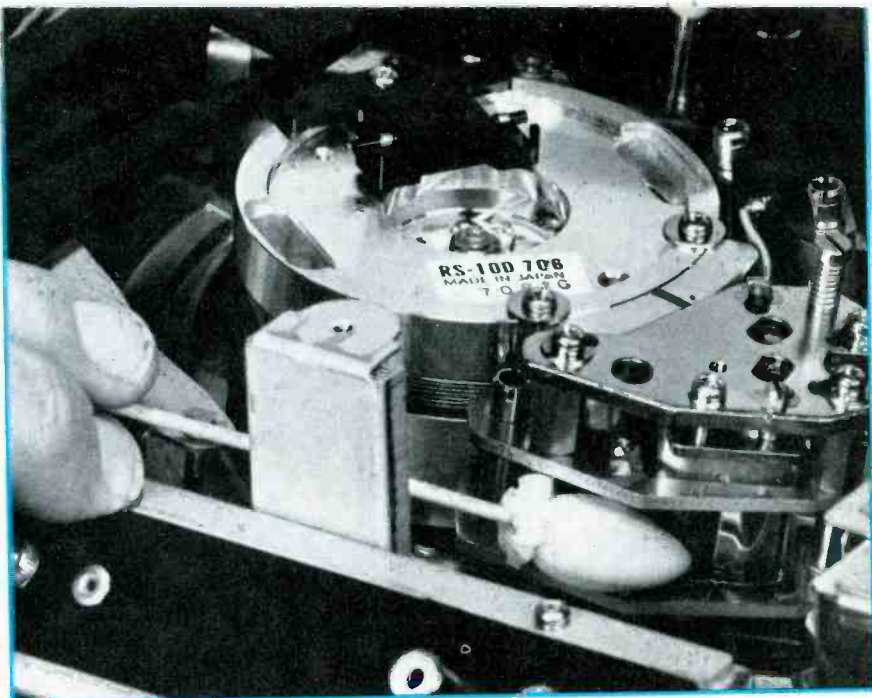

Figure 8. Audio and control-track heads are cleaned by the same side-to-side motion of a cleaning swab. (Photo courtesy of Nortronics.)
- Locate the black fan/blower on the motor (top arrow in Figure 6). Rotate this blower to move one of the video heads to a position shown by the lower arrow of Figure 8. If the head is difficult to see, use an inspection mirror. Do not touch the video head face with your fingers.
- Clean the control-track and audio heads (Figure 8) by using a sideward motion of the swab.